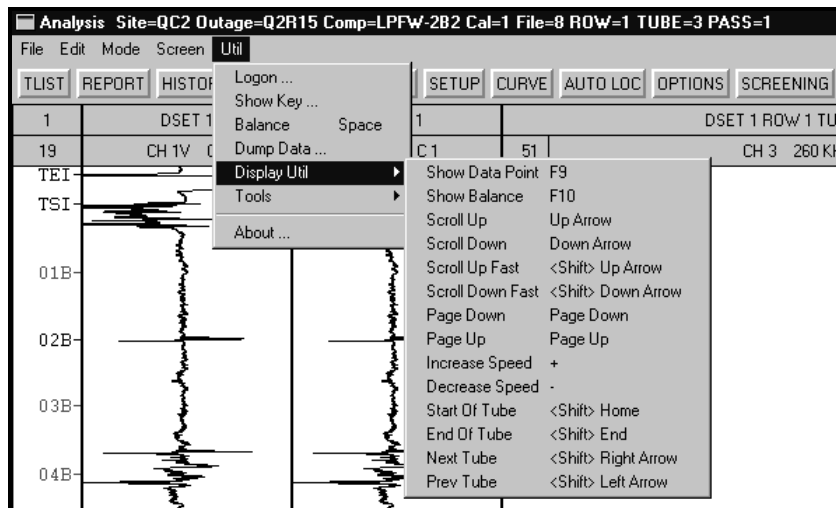

Figure 3-25. Display Util Fly-out
- ❑ **Util > Display Util:** Selecting the **Util > Display Util** menu item in Figure 3-25 causes a fly-out menu to appear. Each function has a corresponding shortcut key as shown. Shortcut keys or hotkeys are ideal for quick access to desired functions in many Windows-type programs. It is strongly recommended that the hotkeys be used to access these features since many of them are dynamic (active) during their use.